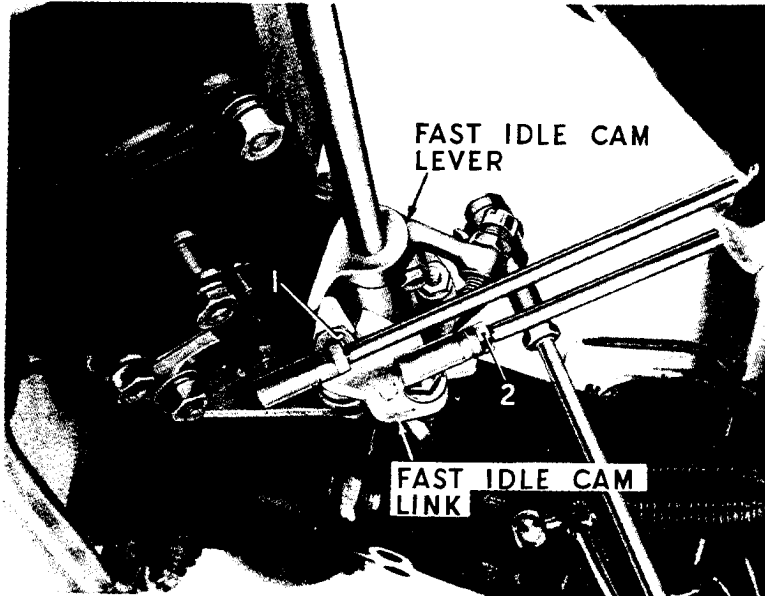

FIG. 4. THE NEW FAST IDLE CAM LEVER AND LINK.
An over-ride has been introduced on production whereby, when the throttle pedal is fully depressed, the choke valve is mechanically opened by trip levers. The alteration consists of fitting a new coupling shaft with a modified fast idle cam lever and a new fast idle cam link as shown in Fig. 4.
- (iv) Undo the 2 BA nut holding the fast idle cam link on its pivot pin, (1, Fig. 4) and discard the 2 BA washer. It has been found that this washer may cause jamming of the fast idle cam link and fast idle cam and it should not be refitted. The 2 BA retention nut itself provides sufficient abutment for the link and cam. Undo the left-hand threaded 4 BA locknut at the lower end of the operating rod to the choke valve (2, Fig. 4). Remove the cam link and unscrew it (left-handed thread) from the rod.